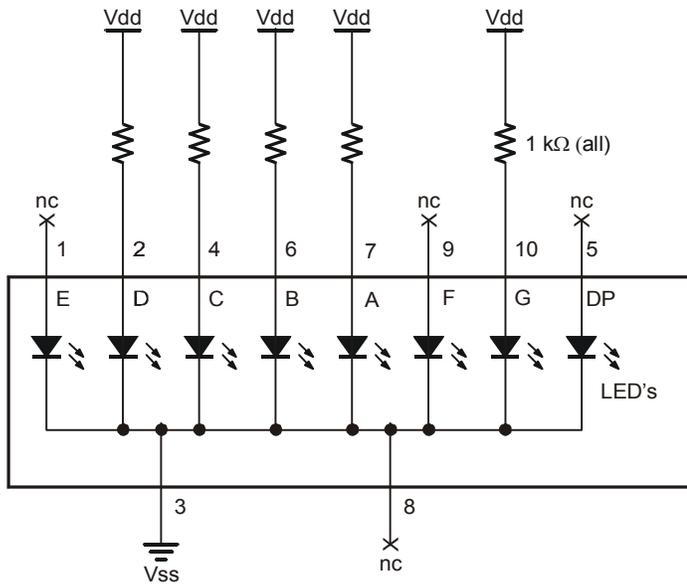
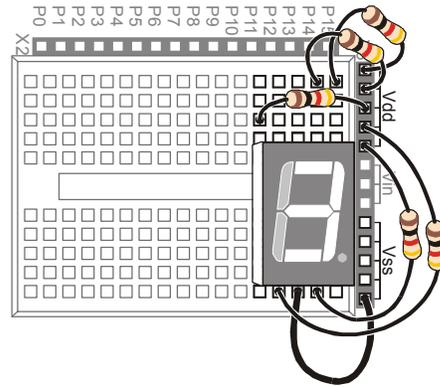

Figure 6-8
Figure 6-9
Figure 6-8 and Figure 6-9 show the digit '3' hardwired into the 7-segment LED display.
- √ Build and test the circuit shown in Figure 6-8 and Figure 6-9, and verify that it displays the number three.